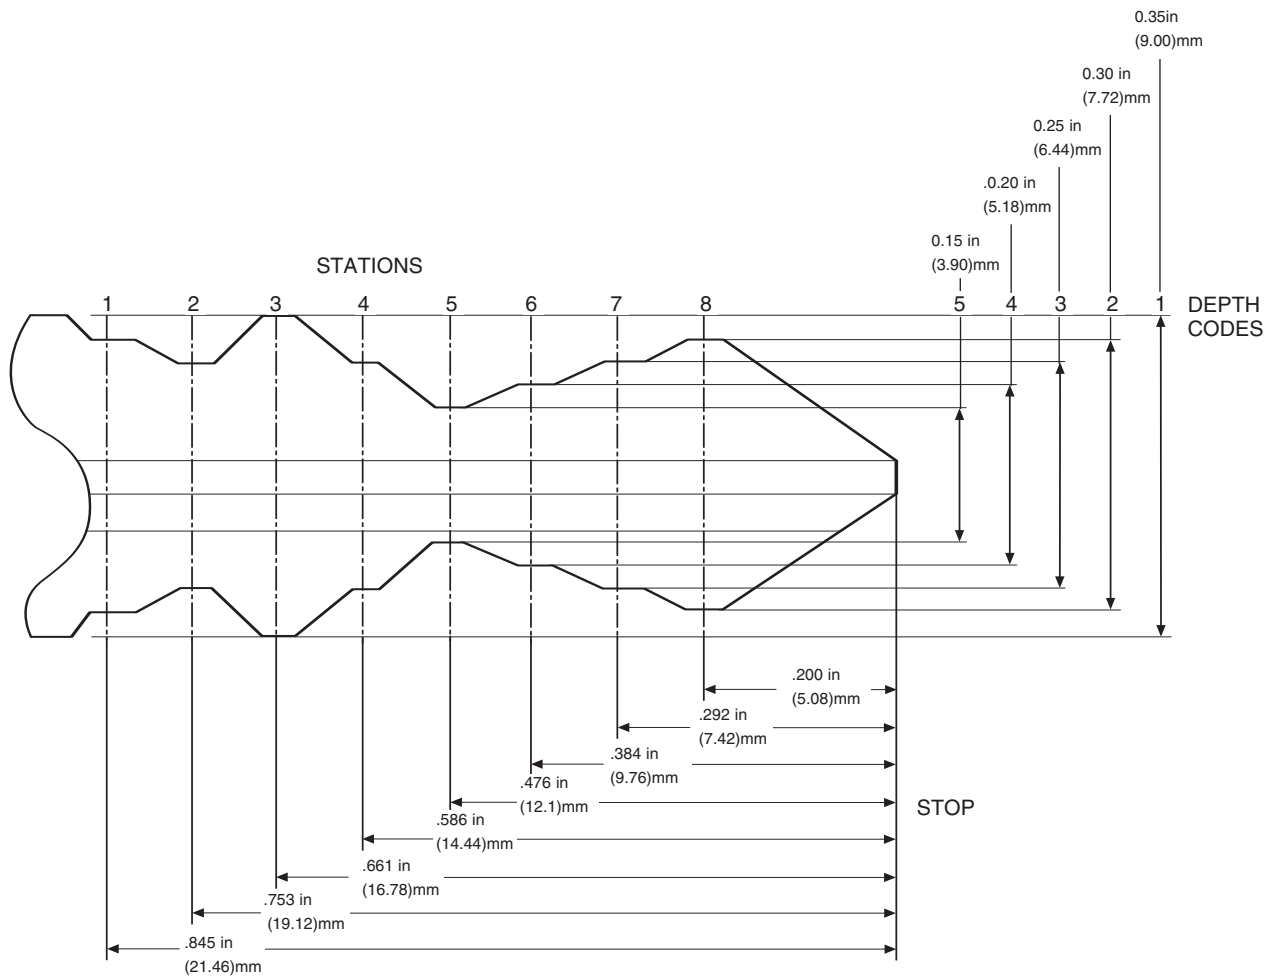

FIGURE 1
1c. Using the customer's key, measure the key cut depth at each key station (refer to Figure 1).
4. Insert actuator (H) into pocket located in the head of cylinder (D) (refer to Figure 1).